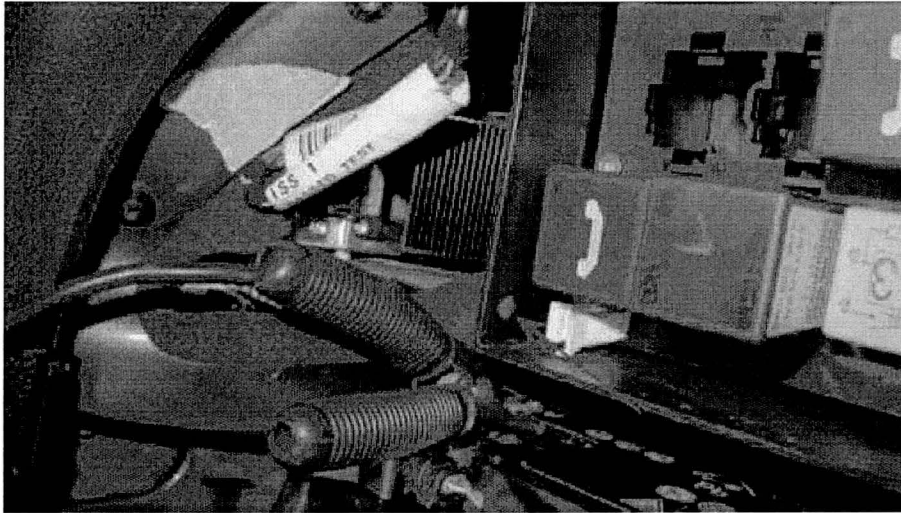

Figure 11
If the vehicle is not already listed as repaired in the 'Repair History' (ElsaPro), check the vehicle for the campaign identification mark, (see Figure 11), if this is not visible carry out the required work in accordance with these instructions
- 21. On completion apply a blue campaign completion mark (see Figure 11)
On completion apply a blue campaign completion mark to the boot mounted fuse box adjacent to the main system battery negative post (see Figure 11)